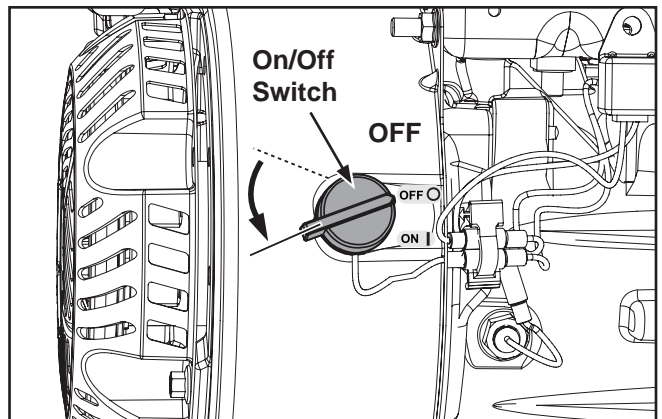

Figure 12. Engine On/Off Switch.
3. Turn key switch or on/off switch to the "OFF" position. Move throttle to the "stop" position if equipped. See Figure 12.